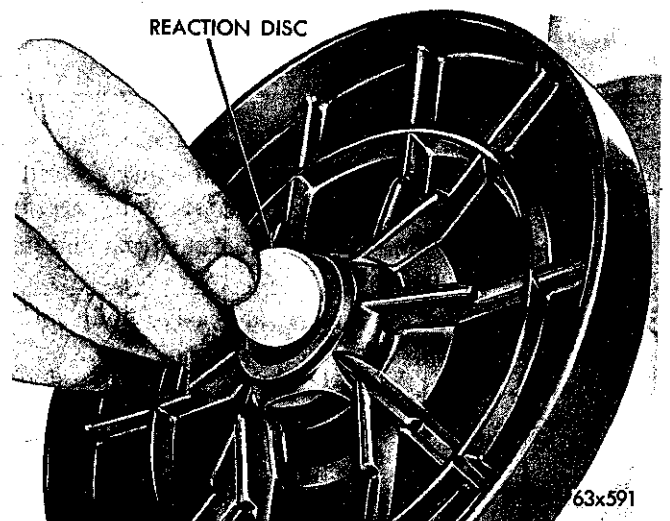

Fig. 22—Removing or Installing Reaction Disc
(12) Press out the reaction disc from the diaphragm plate (Fig. 22).